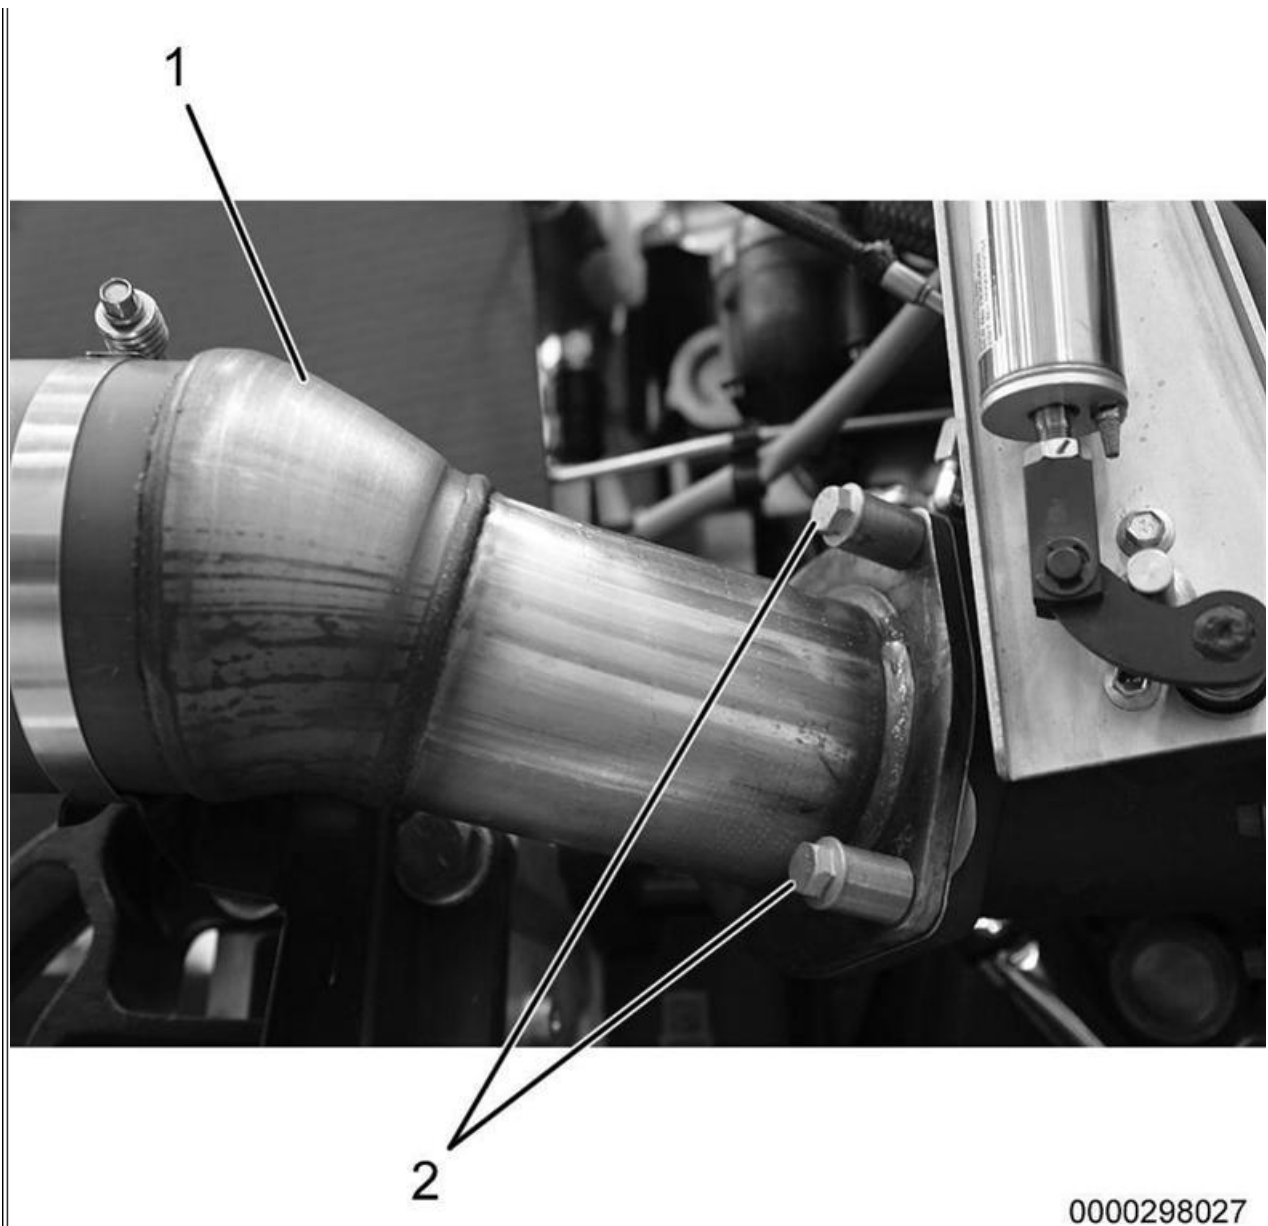

Figure 18: Pre-Diesel Oxidation Catalyst (Pre-DOC) Pipe
50. Position and install pre-DOC pipe (Figure 18, Item 1) onto turbocharger outlet with gaskets, spacers, and bolts. If necessary replace worn or damaged gaskets with new. Using a torque wrench, tighten bolts (Figure 18, Item 2) to 27 lb-ft (36 N•m).